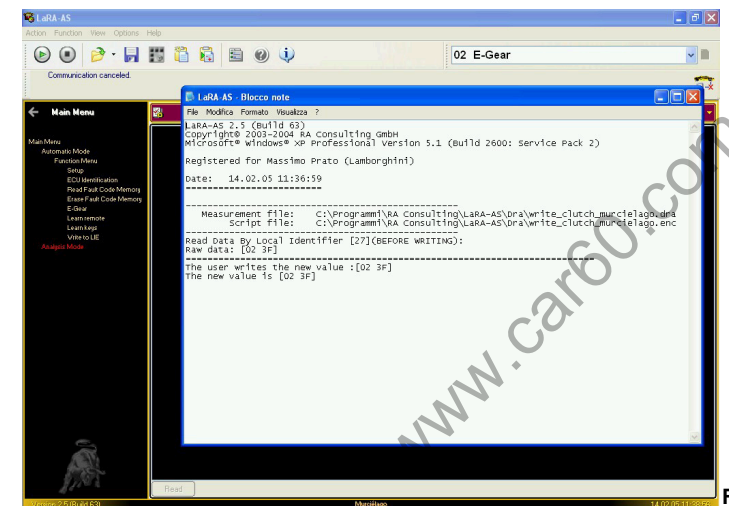

Fig.22
G) Read_Write_Clutch_Murcielago my09: Reads the current position of the clutch if it has been replaced (channel 19) and writes it on channel 27 of the control unit (initial position) (Fig.22).